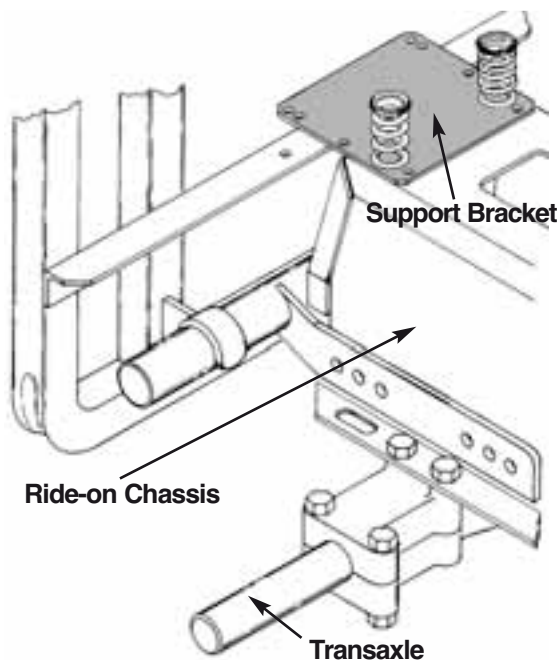

Figure 3.2a - Towbar Installation
The Grass Catcher mount support plate part No: A12666 has four sets of mounting holes to suit all front engine Rover ride-on mowers currently manufactured by Rover. Refer figures 3.2a and 3.3b.
3. Position the support bracket over the two seat spring/buffer mounting holes. Retain the support bracket by replacing the seat springs/buffer and retaining nuts. (Figure 3.2a)